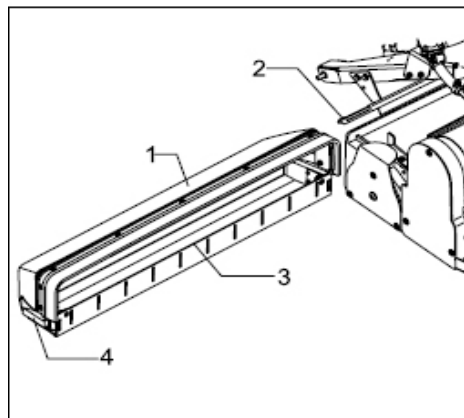

Figure 26 - Debris Hopper
3. Remove the slotted retainer (Figure 26/3) by opening the snap buckles (Figure 26/4) in order to facilitate cleaning.
1. Place the debris hopper (Figure 26/1) onto the guiding bars (Figure 26/2).